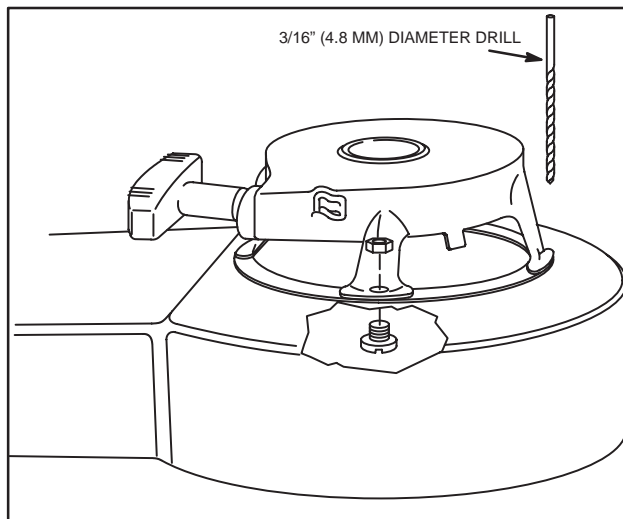

Fig. 614 – REMOVING AND INSTALLING REWIND
4. Fasten securely with nuts as shown in Fig. 614.